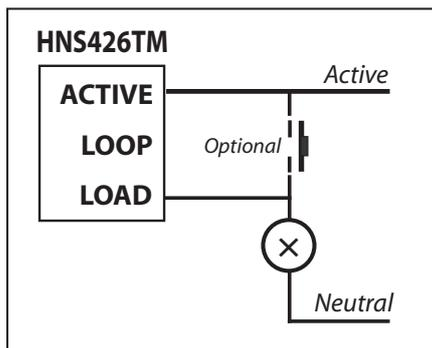

Figure 1
- Install the HNS426TM as per wiring diagram in Figure 1 or 2 below.